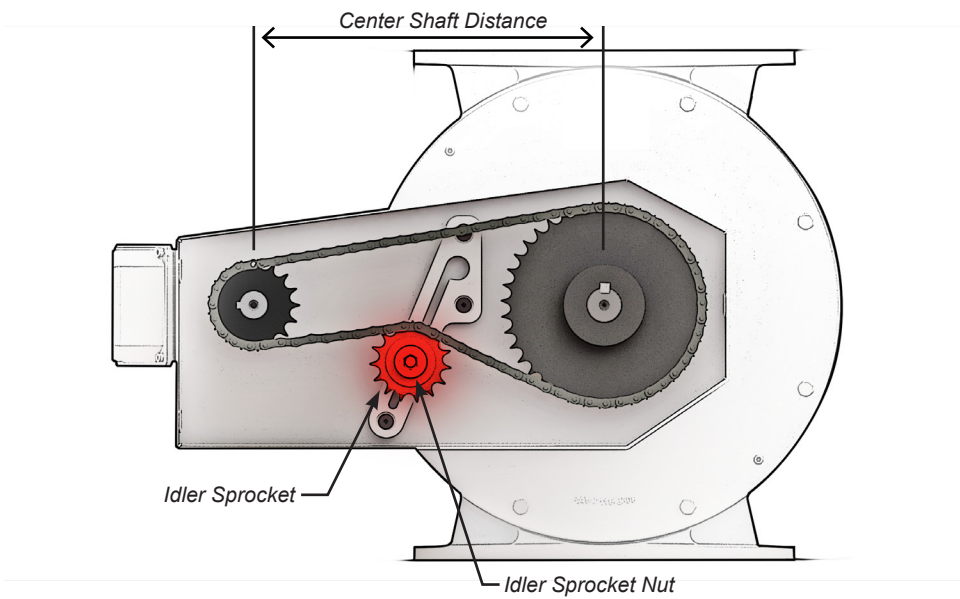

Figure 15
- b. Push idler sprocket up along the slide path to tighten chain (Figure 15).